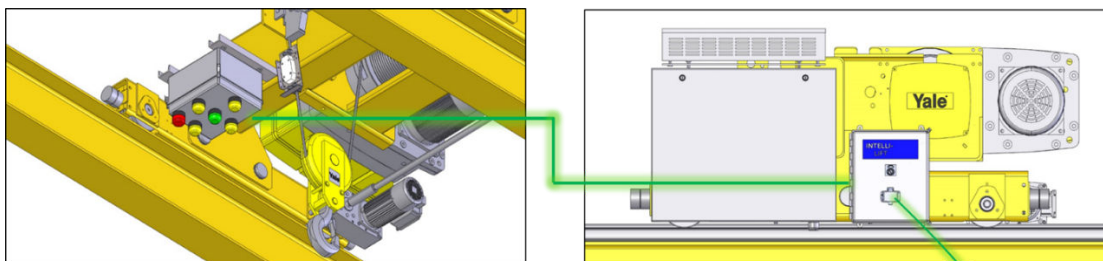

Figure 2: RJ45 PC Port for User Interface
2. Wired RJ45 port on the front of the enclosure for a PC (Fig.2)